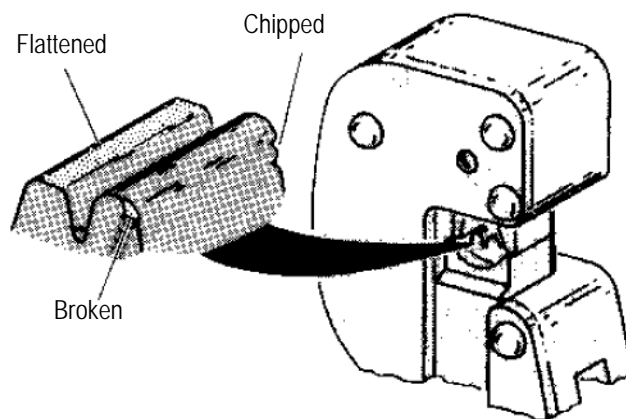

Figure 6
2. Inspect the die closure surfaces for flattened, broken, or chipped conditions. Although dies may gage within permissible limits, worn or damaged die closure surfaces are objectionable and can affect the quality of the crimp. Examples of possible damaged die closure surfaces are shown in Figure 6.